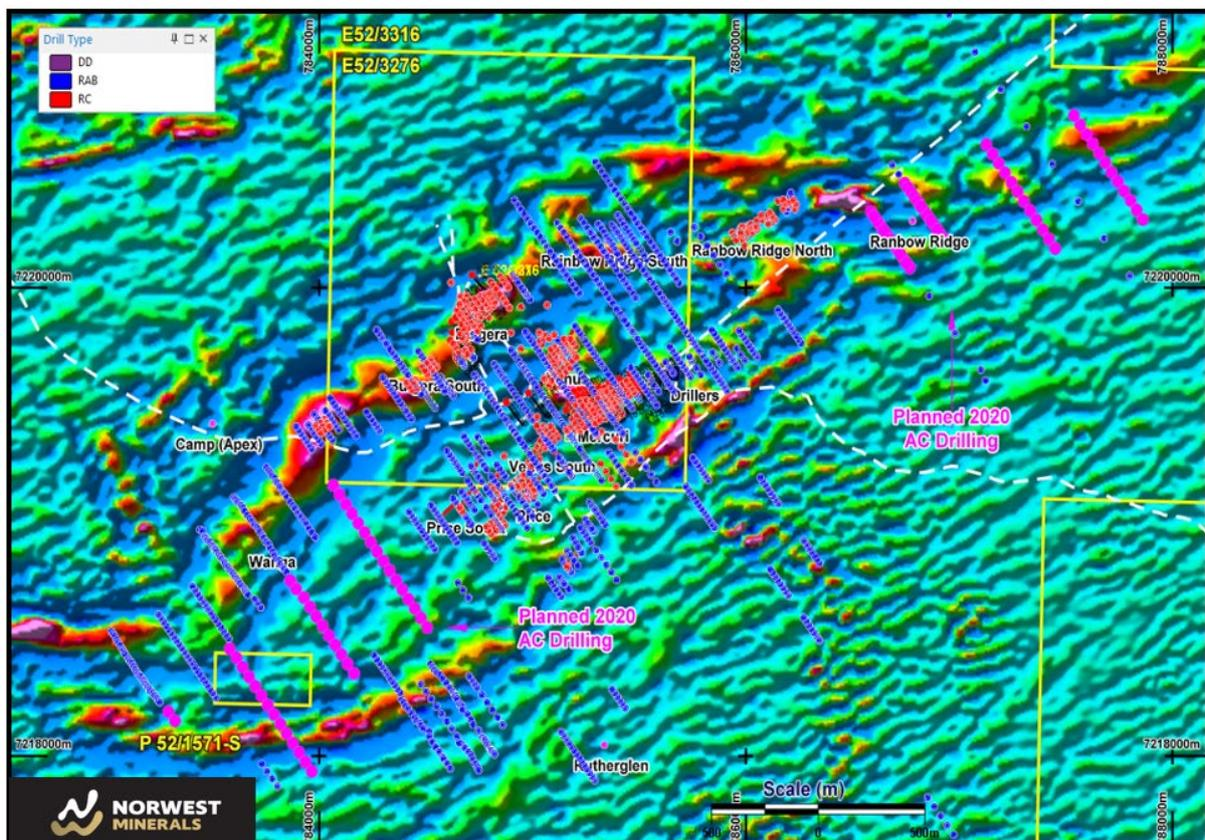

Figure 5– Aircore drill collar locations (bold violet) for regional Bulgera project exploration commencing early 2020.
In early 2020, Norwest will commence a 5,000 metre aircore (AC) drill programme to test numerous targets along the 5-kilometre strike of the Bulgera sheared greenstone package. Targets include geophysical features, anomalous gold-in-soil zones and areas where thick transport cover has likely masked anomalous gold in historical surface sampling programmes. (Figure 5).
In early 2020, Norwest will commence a 5,000 metre aircore (AC) drill programme to test numerous targets along the 5-kilometre strike of the Bulgera sheared greenstone package. Targets include geophysical features, anomalous gold-in-soil zones and areas where thick transport cover has likely masked anomalous gold in historical surface sampling programmes. Figure 5.